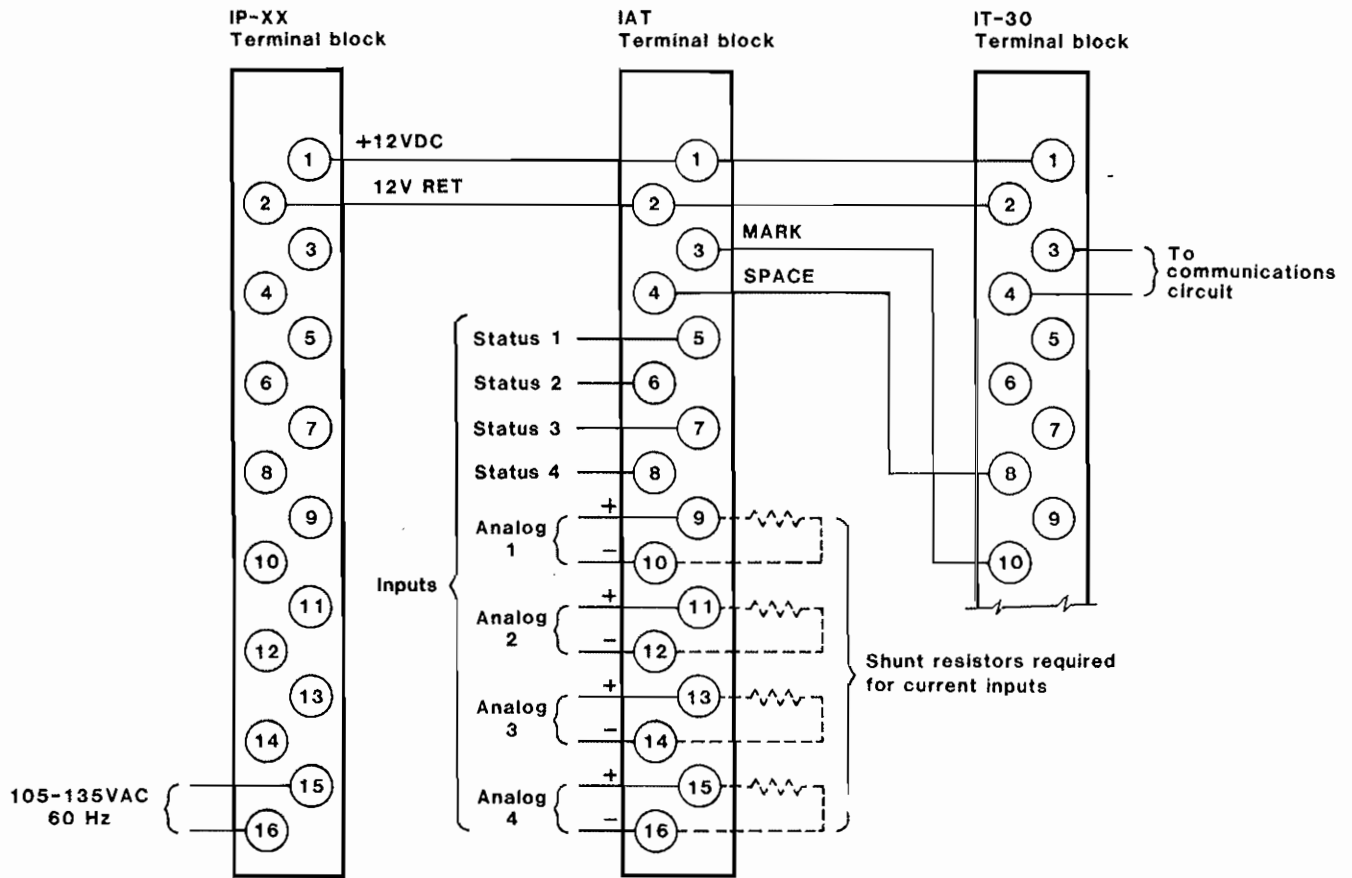

Figure 4. Electrical Installation
5.5 **Electrical installation.** All electrical connections are made to the terminal block at the rear of the frame (see Figures 4 and 5) and Table 5-1.